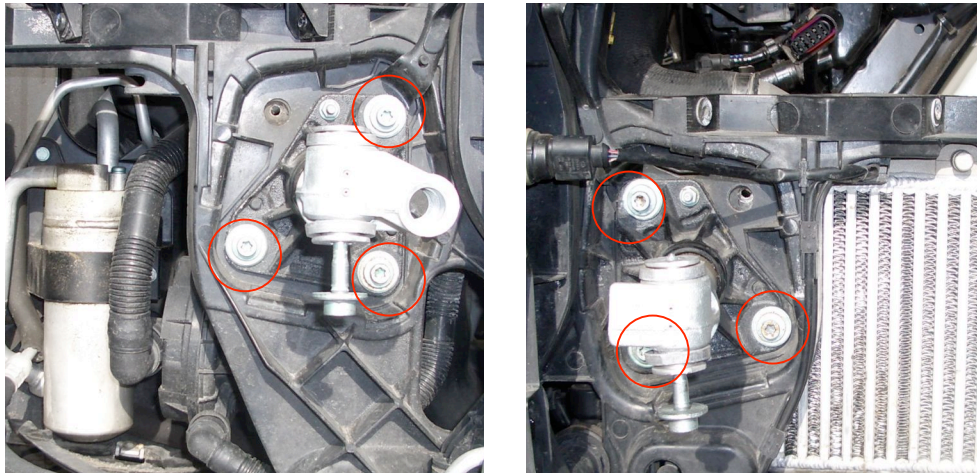

Figure 13
- 15) Loosen the **6** T45 bolts that hold the radiator bumper shock/radiator support to the vehicle. Remove 4 of these bolts, leave the upper 2 threaded in a few turns to prevent the radiator support from coming off entirely. See Figure 13.